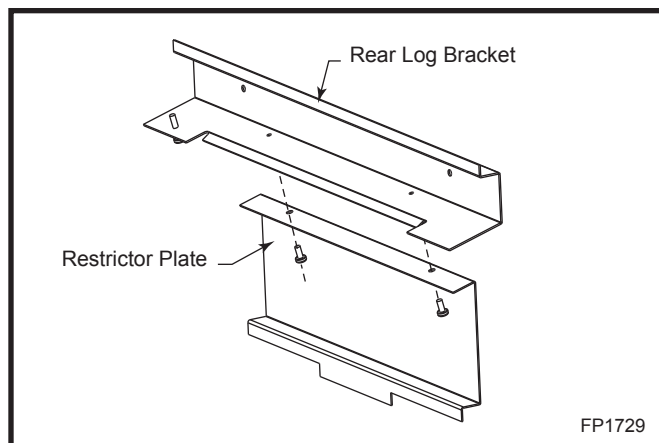

Fig. 15 33XDV restrictor plate installation.
2. Install the restrictor plate with the rear log using existing mounting holes and pre-attached screws from the rear log bracket. (Fig. 15)